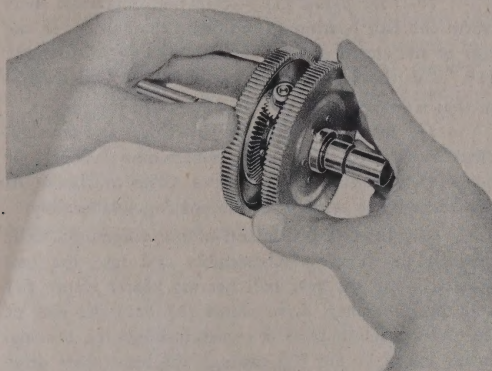

Figure 345 — Testing Differential Gears for Binding
(10) with a thicker washer until the pinion runs free, but does not have more than .003 inch end play.
(c) Place a differential shaft spacer washer (8) .034 inch thick over each end of the differential shaft. (If no parts have been replaced, use washers removed from these positions.) Place a differential drive gear assembly (7 and 18) over each end of the shaft. Press the two gears tightly together by hand to see that there is no binding when they are rotated as shown in figure 345. If binding occurs, a thicker spacer washer must be used.